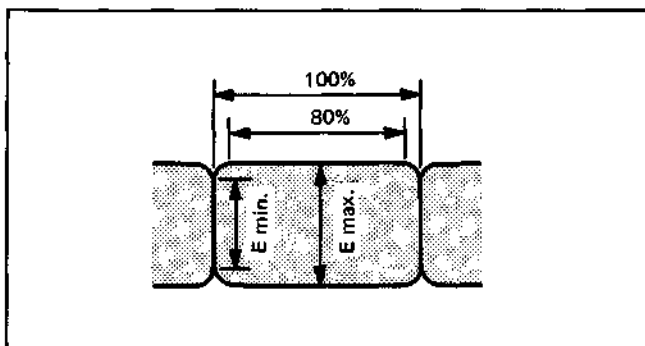

Fig. 1-29
- Confirm that the RF output waveform satisfies the conditions in Fig. 1-29. If not, readjust tape path.